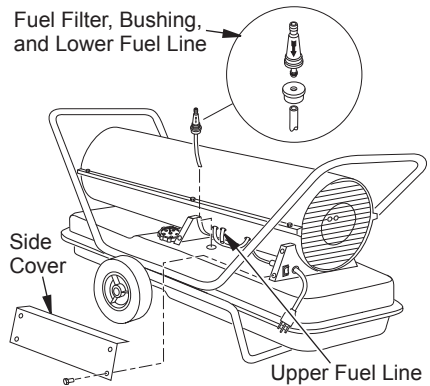

Figure 12 - Fuel Filter Removal
3. Pull upper fuel line off fuel filter neck (see Figure 12).
4. Carefully pry bushing, fuel filter, and lower fuel line out of fuel tank (see Figure 12).
2. Remove side cover screws using 5/16" nut driver (see Figure 12, page 11).
5. Replace side cover (see Figures 12, page 11).